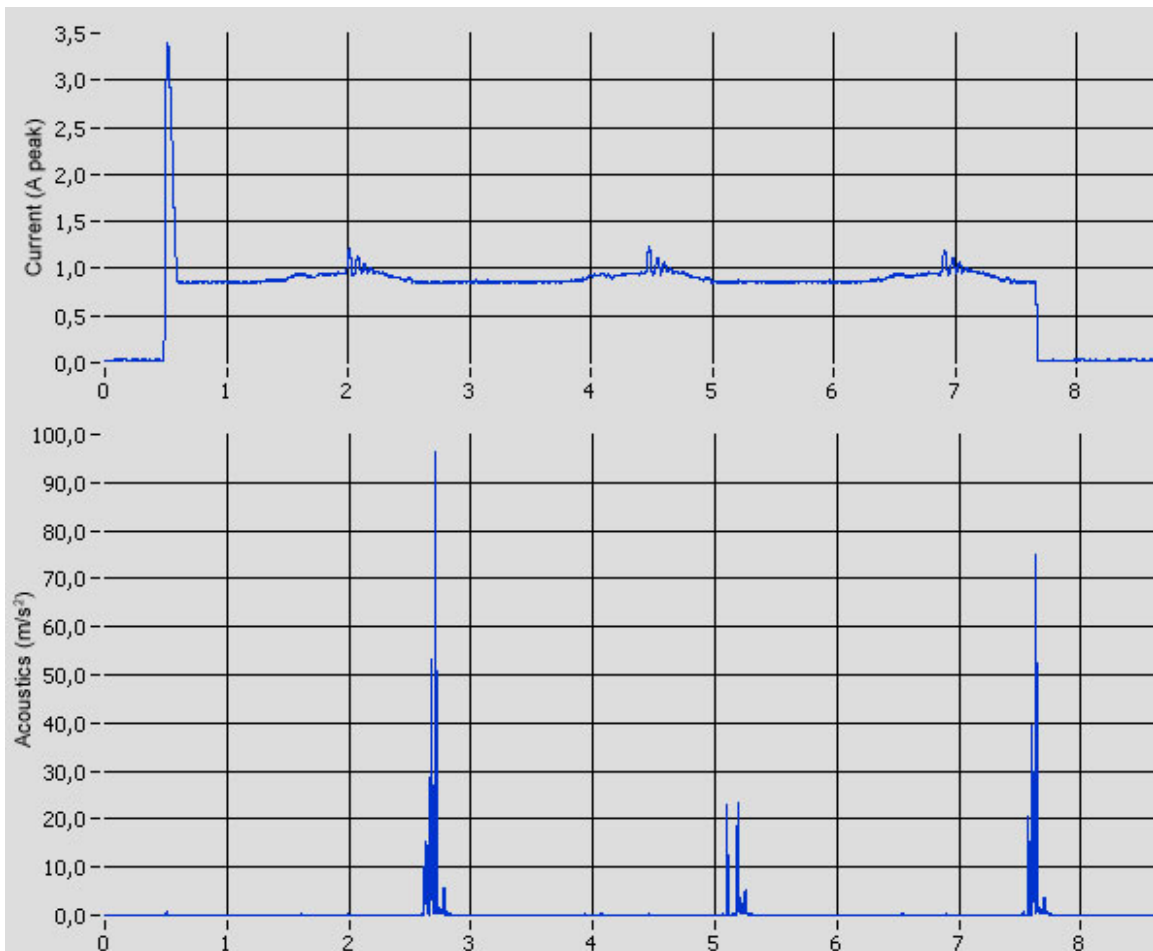

Figure 3 : Triple operation (9A, 9B and 9) for an ABB UCZCRN (tap +9)
For example, when a moving contact is switched from tap 8 to tap 9, the switch passes through the intermediate positions 9A and 9B. This operation is a triple operation and is expressed by multiple switchings (3) on the acoustic signature, as shown in the Figure 3 below.